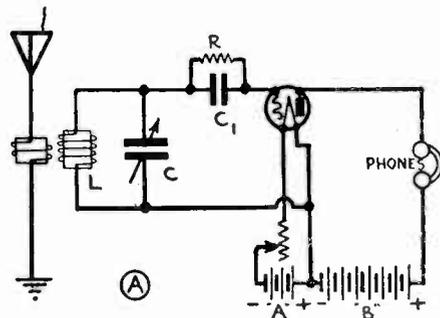
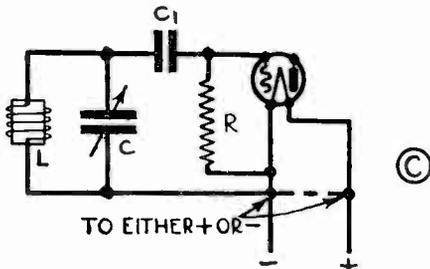

Fig. 44A: Circuit of grid leak and condenser detector.
Fig. 44C: The grid leak may be connected from grid to filament, as shown, instead of across the grid condenser.
**71. GRID CONDENSER METHOD:** The grid condenser, or grid current rectification method of operating the three-electrode tube as a detector, is shown in Fig. 44A. This is based upon the fact that the grid can act more or less in the same manner as the plate and attract electrons itself as soon as it becomes positive with respect to the filament. The
This can be done by connecting a high resistance  $R$ , from 1 to 10 megohms (1 megohm equals one million ohms), known as a "grid leak", either across the grid condenser "C" as shown in Fig. 44A, or directly between the grid and the filament as shown in Fig. 44C. The latter method has a special advantage in present day single control receivers, as we will see later.